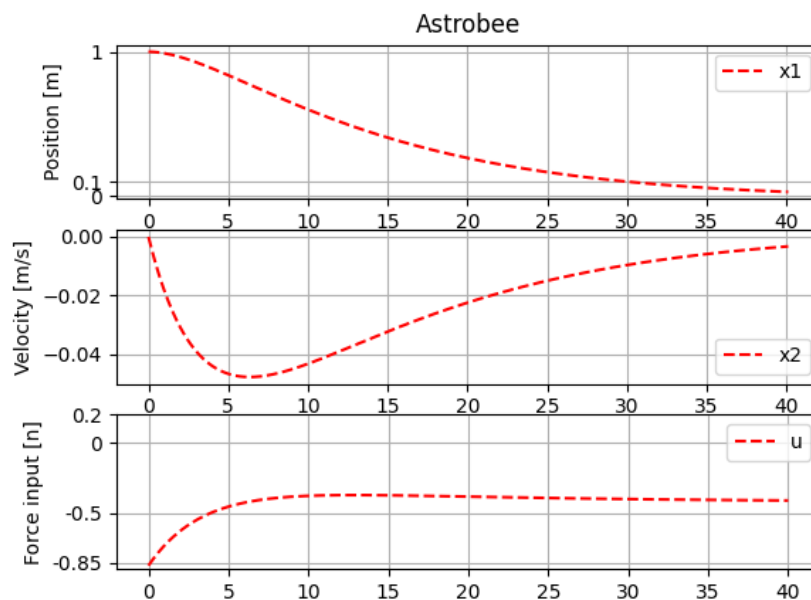

Figure 5: Control of Astrobee – Linear control, with disturbance and integral feedback control
**Q5.** Design of Feedback loop with integral part needed to deal with disturbances. For reaching the requirement 90 % within 30 seconds, the Linear feedback gain  $L$  is to be manipulated to accelerate the control with desired poles  $\lambda_1 = 0.974$  and  $\lambda_2 = 0.984$  for calculation. By implementing the integral state feedback with an integral gain  $k_i = 0.028$  the disturbance is controlled without overshooting, see figure 5.